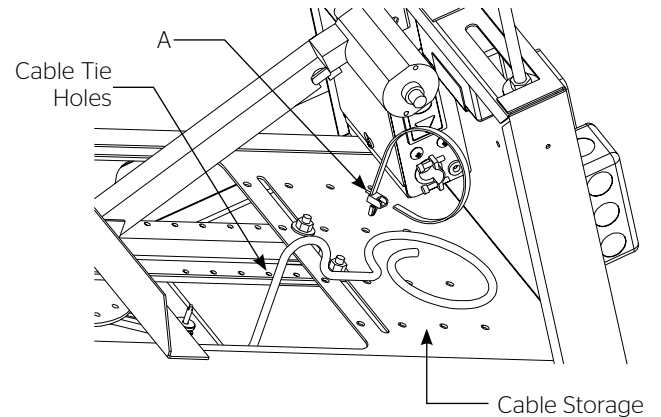

Figure 14
13. Use provided Cable Ties for cable management. See Figure 14. Allow enough slack in the cords for projector movement. If Da-Lift is a 220V version, use the supplied electrical adapter.